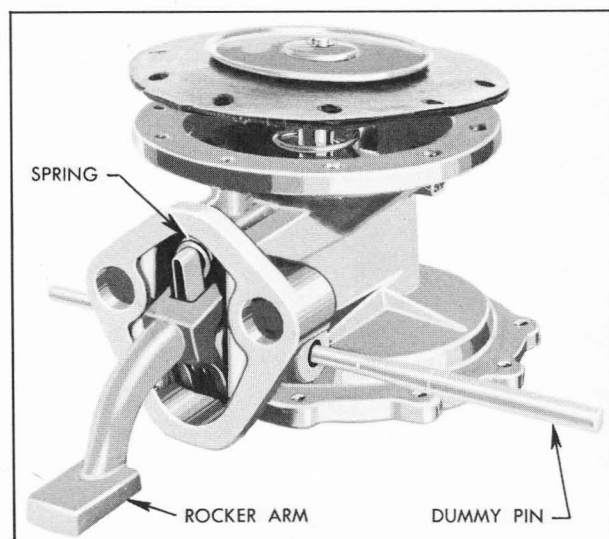

Figure 3-28—Rocker Arm and Links Held in Body by Dummy Pin
5. Stand the pump body on the bench, fuel flange down. Set rocker arm spring in body with one end over cone cast into body. Slide rocker arm and link assembly into body, with open end of all link hooks pointing up toward vacuum flange, and engage rocker arm spring with projection on link spacer. Hold parts in body with the *small end* of Rocker Arm Dummy Pin KMO-707 (or a piece of $\frac{5}{32}$ " drill rod). See figure 3-28.